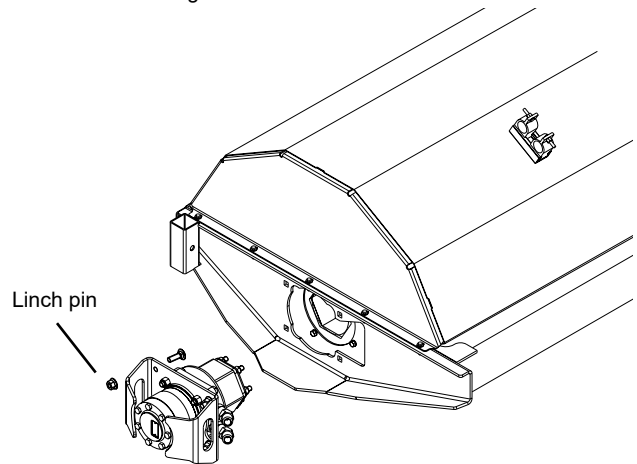

Figure 9
2. Remove (4) lynch pins from brush frame. Retain mounting hardware. See Figure 9.
3. Install motor on each side of the brush frame using original hardware. See Figure 9.